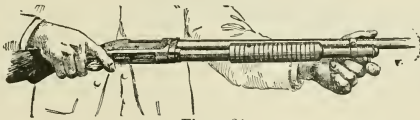

Figure 23.
*To put the gun together*, grasp the barrel and magazine just ahead of the receiver extension, and holding the action slide forward, insert the shank of the barrel into its place in the receiver in such a position that a quarter turn to the right will lock the barrel into the receiver. Turn the barrel one-quarter turn to the right. Insert one finger of the right hand in the opening in the under side of the receiver and push up the carrier. Turn the magazine to the extreme left and push the magazine into the receiver as far as it will go. Turn the magazine one-quarter turn to the right, Figure 23, by means of the locking pin, and push in the pin. Care should be taken to hold the action slide forward when inserting and